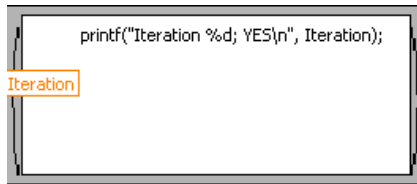

Figure 15. Inline C Node
3. Enter the following in the Inline C Node as shown in Figure 15: